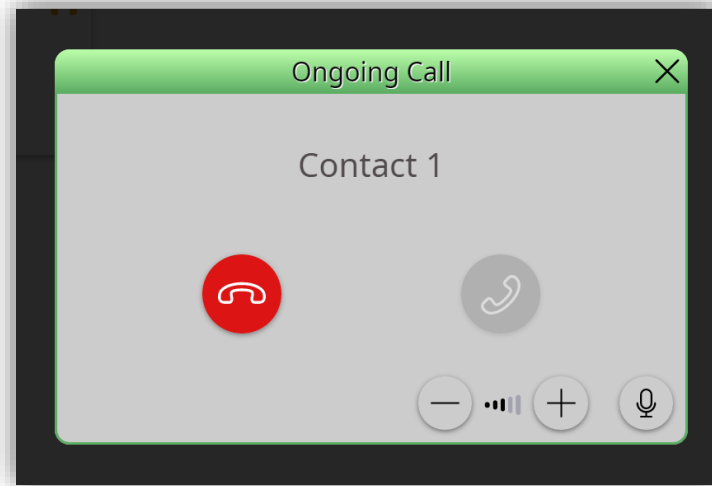

Figure 129. Ongoing call
- **Accept call:** opens ongoing call dialogue (Figure 129) initiating the audio communication.
When accepting an incoming internal call, the interface in Figure 129 will be displayed.